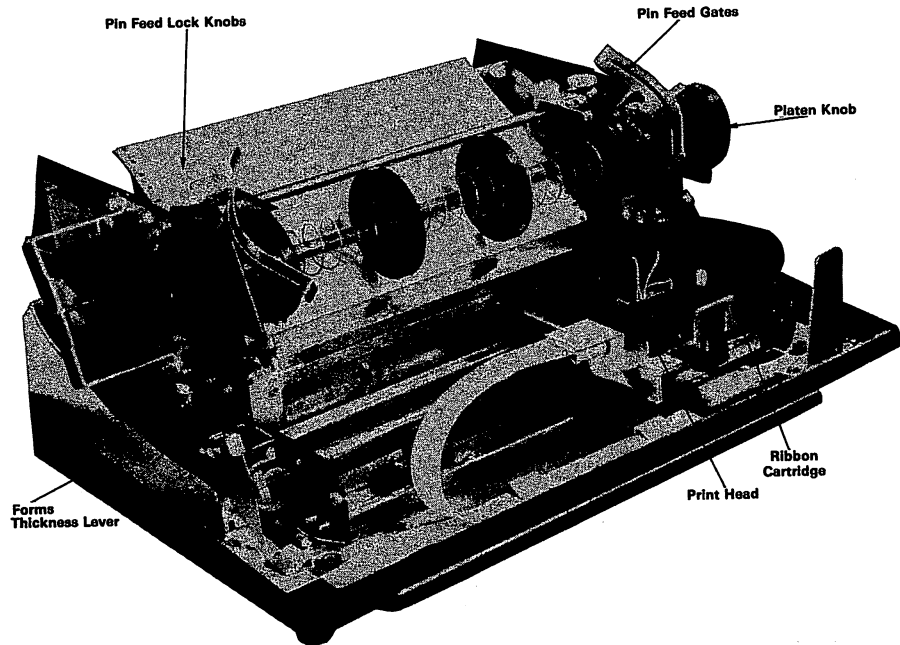
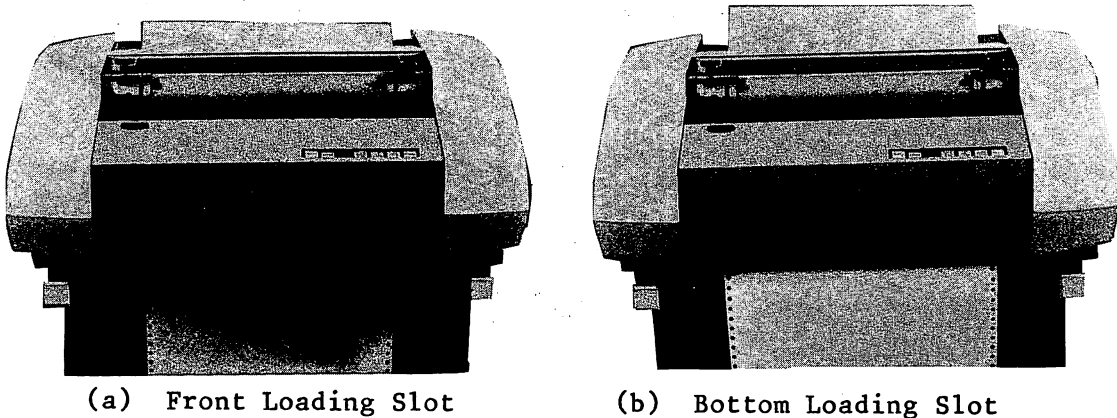

Figure 1-2. Model 2231W-6 Line Printer, Definition of Terms
Figure 1-3. Paper in Loading Slots
2. Push continuous-form pin-feed paper into the slot at the bottom front of the printer until it comes out between the pin-feed mechanisms (see Figure 1-2 and Figure 1-3). (Note: An optional slot for paper insertions is located at the bottom of the printer.)
2. Raise the cover of the printer and find the Print Head and the Forms Thickness Lever (see Figure 1-2).